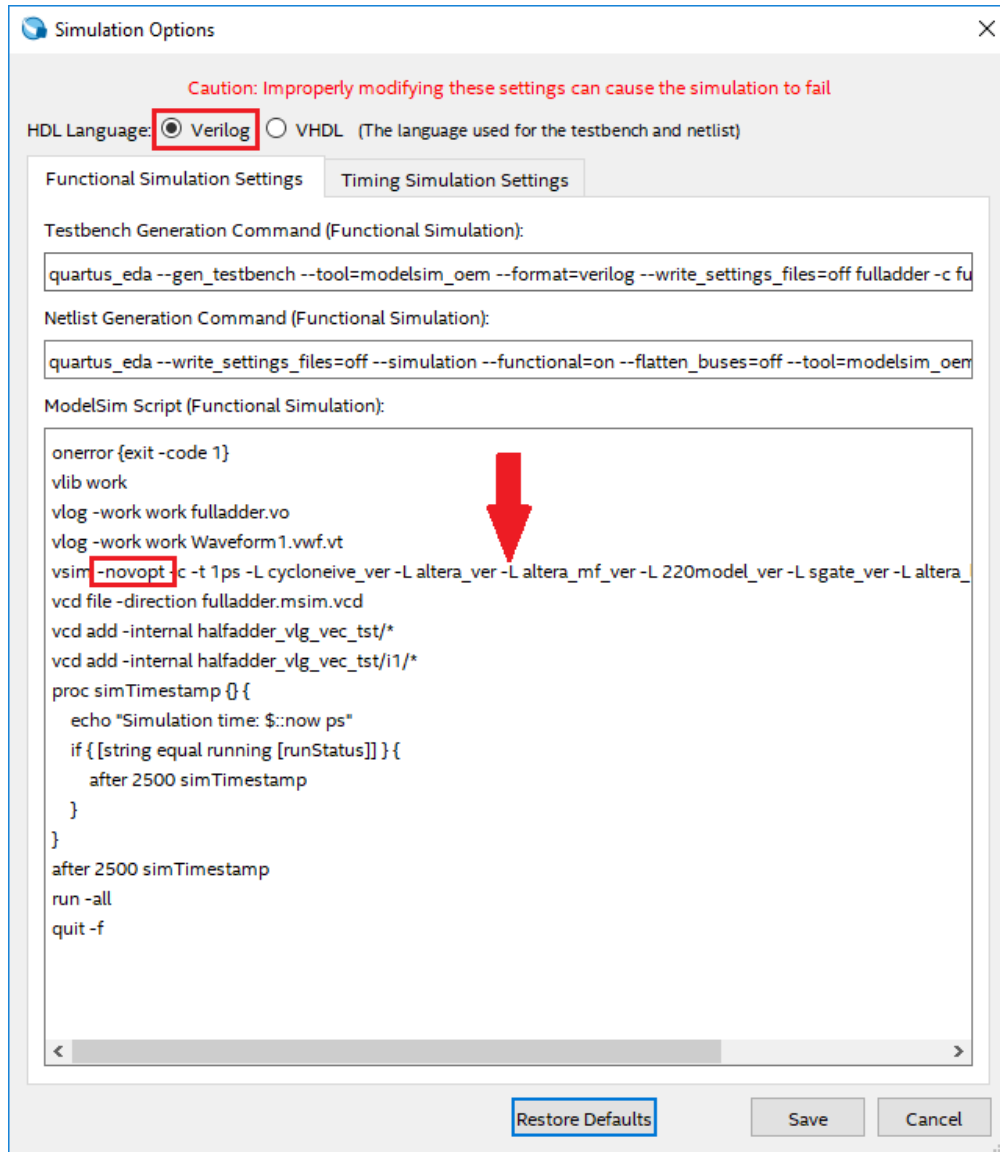

Figure 5.10: Simulation Settings
3. On the **Functional Simulation Settings** tab, locate the line **"vsim -novopt -c ....."** inside the **ModelSim Script (Functional Simulation)** pane. See Figure 5.10.